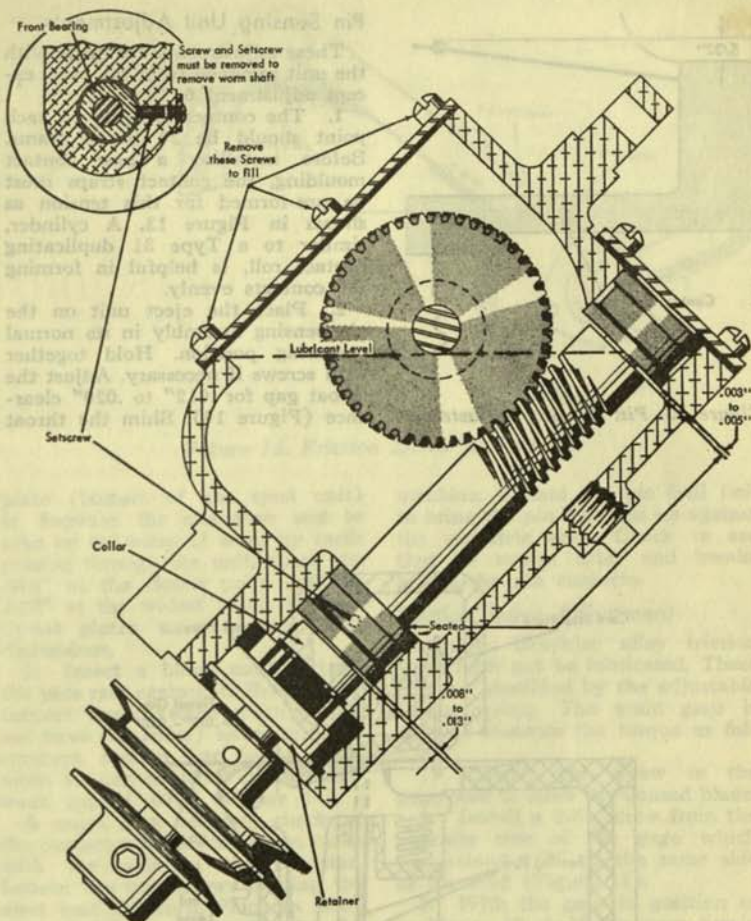

Figure 12. Reduction Drive Adjustment
2. Keeping the outer bearing against the worm gear shoulder, insert the shaft in the housing and lock the front bearing in place with $.003''$ to $.005''$ end shake for the worm shaft (Figure 12). No timing is necessary to install the housing.